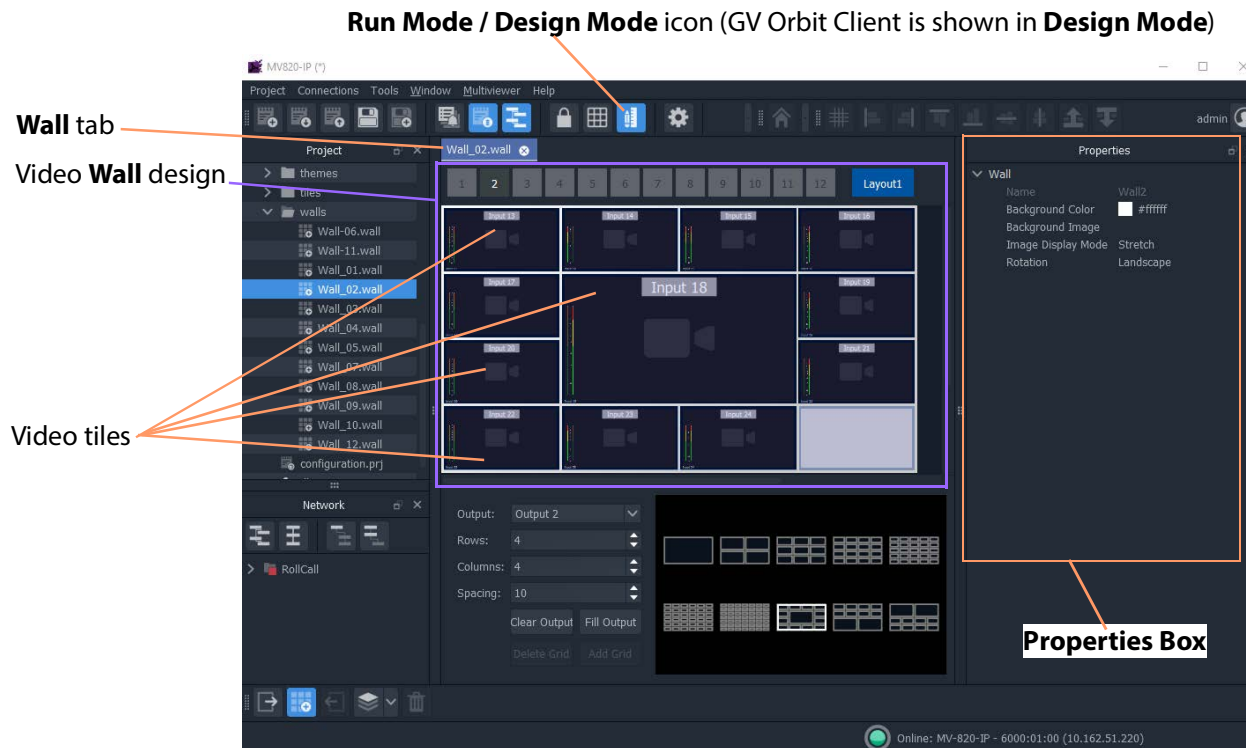

Fig. 2-35: Example Video Wall Tab in Wall Editor
- 1 Click on the large **Walls** icon, and select one of the wall items that is shown listed. The multiviewer video wall design is opened in a tab in the overall GV Orbit Client window. See Figure 2-35.